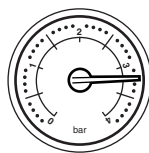

Fig. 12
3. A pressure of 3 or greater indicates a fault. The safety pressure relief valve will operate, at a pressure of 3 (Fig. 12). **It is important that your Installer or Service Engineer is contacted as soon as possible.**